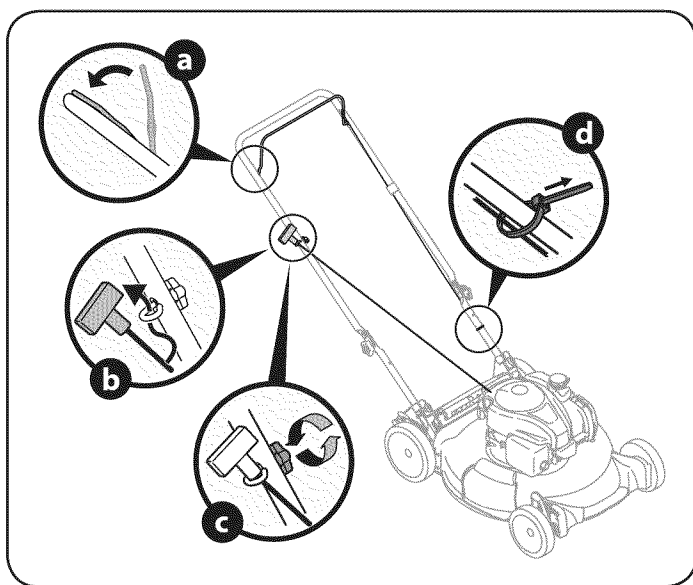

Figure 6
- b. Slowly pull starter rope handle from engine and slip starter rope into the rope guide. See Figure 6.